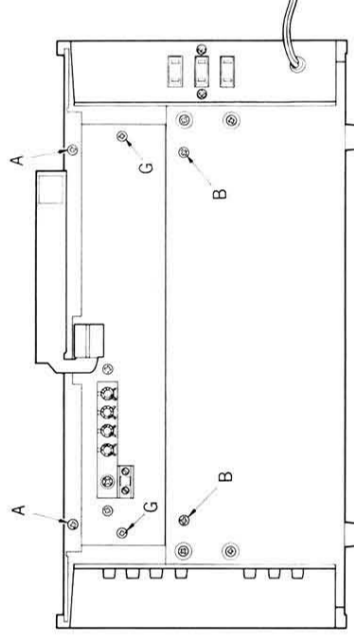

Fig. 1
- 1) After removing the two screws indicated as A in Fig. 1, take off the top plate pulling it backwards.
- 2) The bottom cover is removed by taking off the two screws indicated as B in Fig. 1 as well as the two screws located at the bottom.
- 3) Remove the rear-chassis-fixing screws (9 of Fig. 1) of the tuner section.